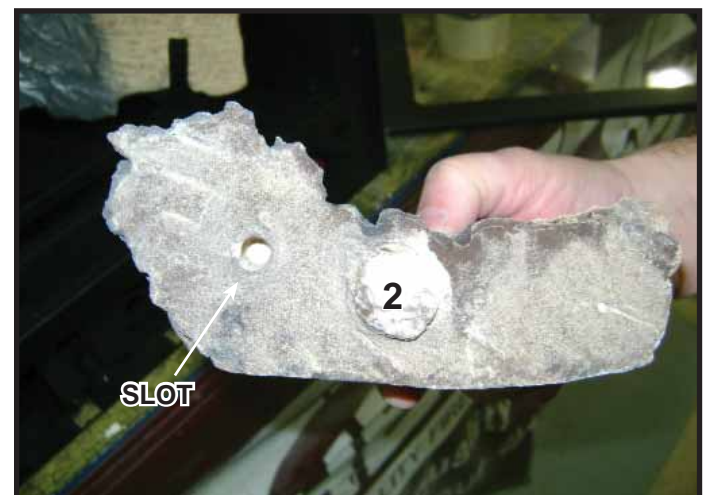

Figure 4. Place Log #2
**Log #2 (SRV2206-705):** Position Log #2 as shown in Figure 3. Mate the slot located on the bottom of Log #2 (Figure 4) with the log pin located on the surface of the burner. Rotate the right end of Log #2 clockwise, until it comes into contact with the grate tine.